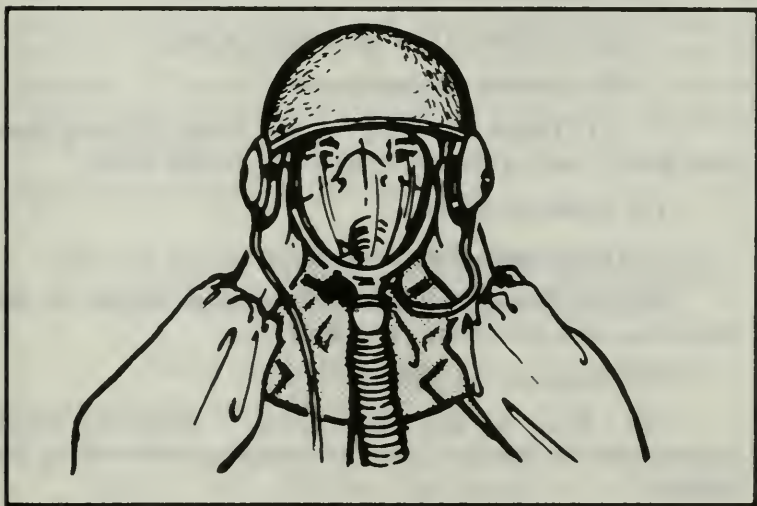

Figure 262. Put on helmet.
(1) Turn up your collar. Turn up your shirt or jacket collar around your neck.
(2) Pull the hood over your head. Grasp the lower rear portion of the hood and pull it over your head.
(3) Adjust the neck cord. The neck cord should rest over your upturned collar. Tighten to a snug, yet comfortable fit.
(4) Adjust the underarm straps. Obtain a snug, yet comfortable fit.
(5) Put on the helmet. Grasp the helmet inside next to the earcups. Spread your hands to flex the helmet open. Put the helmet over your head and tilt forward so that the helmet first touches part of the mask resting on your forehead. Lower the helmet back and down over your head until it is seated in position. Carefully slide your hands out so that the seal between your face and mask is not broken (Figure 262).
(6) Switch microphones. Pull out the boom microphone connector from the receptacle in the